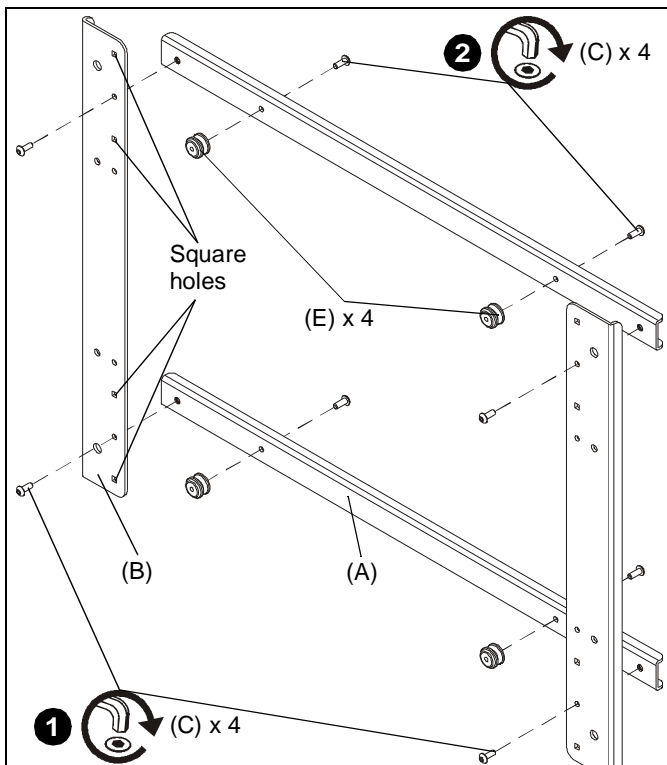

Figure 1
1. Attach vertical brackets (B) to horizontal brackets (A) using four 10-24 x 1/2" button head cap screws (C). (See Figure 1)
NOTE: Use the square offset holes in vertical brackets if using the noted holes (See Figure 1) cause the horizontal brackets to block connections, or if an offset is needed for the installation.
2. Attach mounting buttons (E) to interface bracket using four 10-24 x 1/2" button head cap screws (C). (See Figure 1)